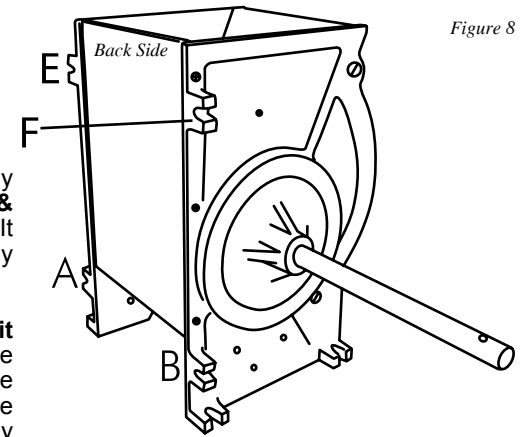

Figure 8
2. Align holes A, B, E & F on the **Mounting Board** with **Feet A, B, E, & F** (Figures 8 & 9). The side of the **Mounting Board** with the stepped holes should face toward you.